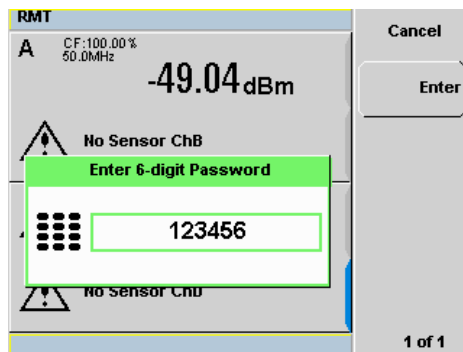

Figure 3-48 6-digit password entered
- 4 The entered password will be displayed (see Figure 3-48). Press **Enter**.